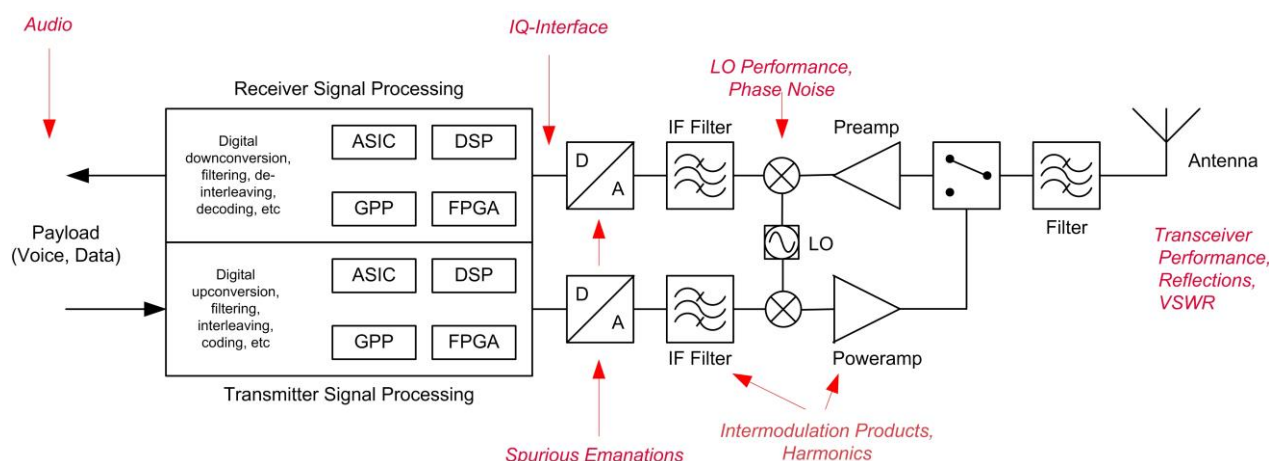

Fig. 8: Overview of SDR measurements.
Fig. 8 shows the block diagram for an SDR again, but this time with the most important test parameters and where they occur. On the analog side, the oscillators (LO) and the mixers are the sources for phase noise, while nonlinear components such as amplifiers and filters generate harmonic spectral components. The antennas also play an important role in the radio as a whole. In the interface between the analog and the digital part, the digital-to-analog converters (DAC) are the sources of spurious emanations. If the emanations fall in the passband of the IF filter, they are transmitted as well.